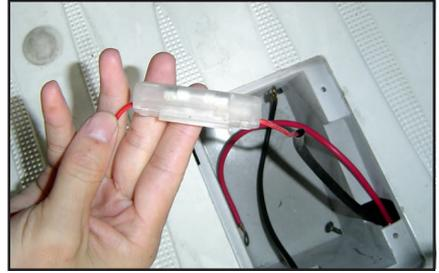

Fig. 27
- Locate the fuse block (See Fig 27)